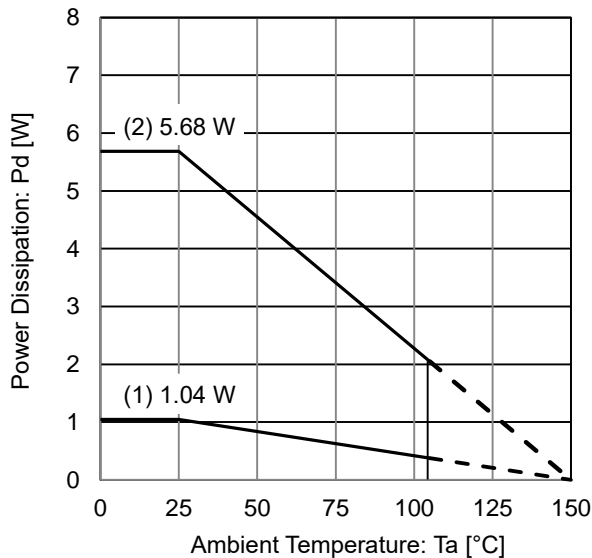

Figure 28. Power Dissipation
When operating at temperature more than  $T_a = 25 \text{ }^\circ\text{C}$ , please refer to the power dissipation characteristic curve shown in Figure 28.
Figure 28 show the acceptable power dissipation characteristic curves of the HRP5 package. Even when the ambient temperature ( $T_a$ ) is at normal temperature ( $25 \text{ }^\circ\text{C}$ ), the chip junction temperature ( $T_j$ ) may be quite high so please operate the IC at temperatures less than the acceptable power dissipation.
$$\left( \begin{array}{l} \text{Figure 28. (2) } \theta_{ja} = 22 \text{ }^\circ\text{C/W} \rightarrow -45.5 \text{ mW/}^\circ\text{C} \\ 25 \text{ }^\circ\text{C} = 5.68 \text{ W} \rightarrow 85 \text{ }^\circ\text{C} = 2.953 \text{ W} \end{array} \right)$$